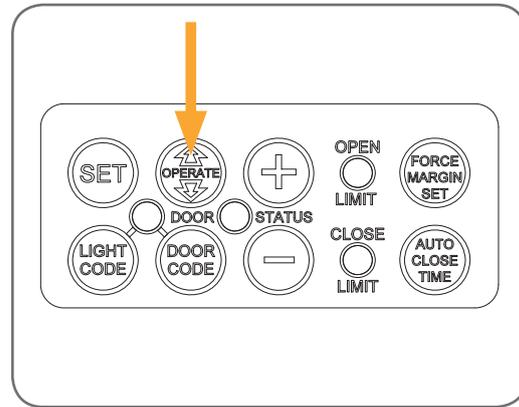

fig 27
- Press the OPERATE button to open the door (Fig. 27).